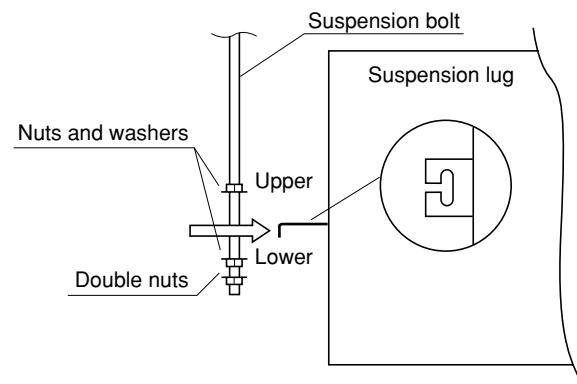

Fig. 3-6
- (2) Thread the 3 hexagonal nuts and 2 washers (field supply) onto each of the 4 suspension bolts as shown in Fig. 3-6. Use 1 nut and 1 washer for the upper side, and 2 nuts and 1 washer for the lower side, so that the unit will not fall off the suspension lugs.